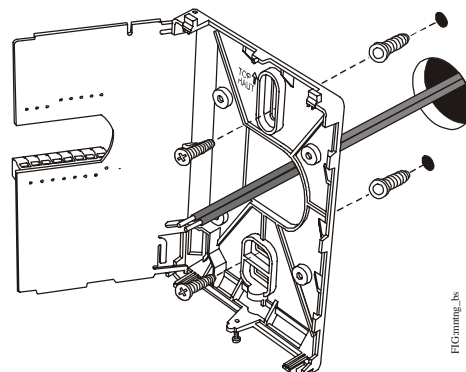

Figure 4: Securing the Zone Controller Mounting Base to the Wall
6. Position the zone controller mounting base on the wall, and use the two mounting screws (included with the zone controller) to secure the base to the wall surface as illustrated in Figure 4.